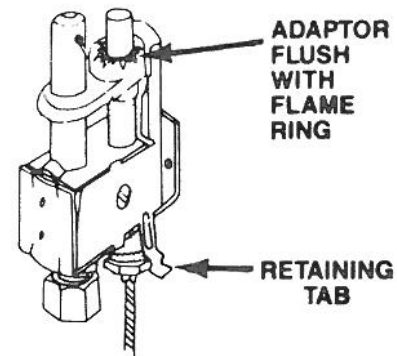

FIGURE 2
3. Push thermopile into PG9 pilot until the adaptor is flush with top of the flame ring. NOTE: For proper operation adaptor MUST BE flush. See figure 2.